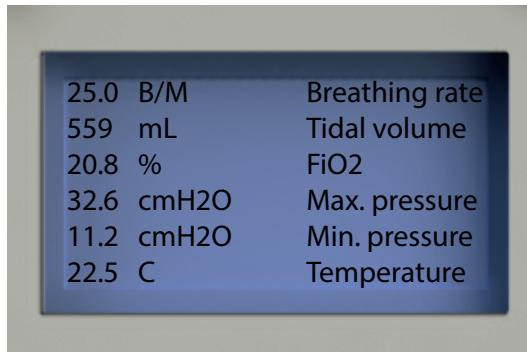

Figure 8: An example of the main menu.
The display (1) shows initially the main menu which displays the following six values: (i) achieved breathing rate, (ii) lung tidal volume, (iii) fraction of inspired oxygen (FiO2), (iv) maximal pressure, (v) minimal pressure and (vi) the temperature of the inspired air. Table 1 shows the exact meaning of all the six values. Figure 8 shows an example of the display with the main menu.
5. Check the main screen to see if a temperature value is displayed, see Figure 8 for an example
6. Check the main screen to see if it looks like normal, see Figure 8